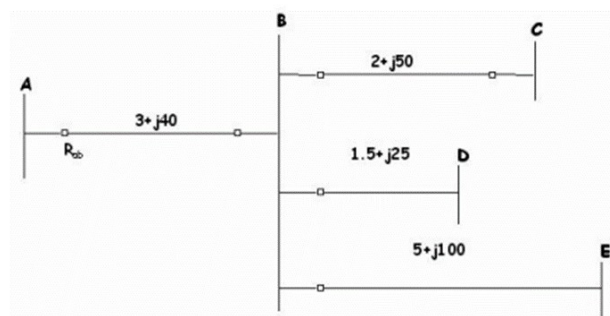

Fig. Q3
- b) Given a 138kV in **Fig Q3**. Assume that the maximum load at the relay site is 120 MVA, and select CT ratio accordingly. The available distance has a zone 1 and zone 2 settings from 0.2Ω to 10Ω , and zone 3 settings from 0.5Ω to 40Ω in the increments of 0.1Ω respectively. The angle of maximum torque can be adjusted to 75° or 90° .